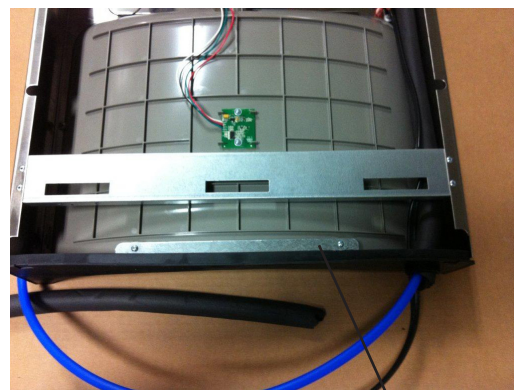

Fig. 7
- 6) Install gasket on bottom of bottle filler tower with gasket support bracket & (2) screws (See Fig 7).